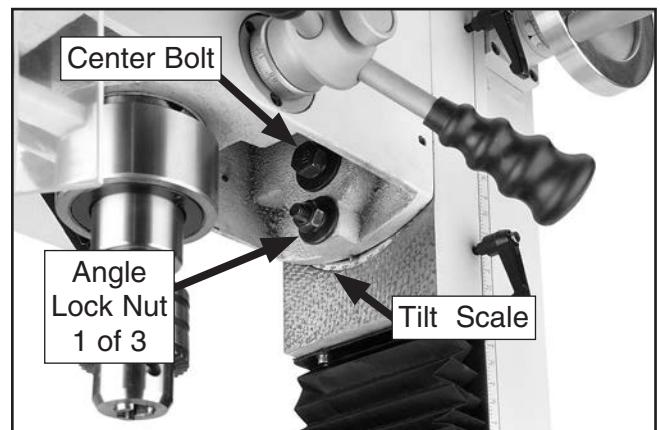

Figure 31. Headstock tilt controls.
2. Support the headstock with one hand, then using the included 17/19mm combo wrench, loosen the headstock center bolt and three angle lock nuts (**Figure 31**).